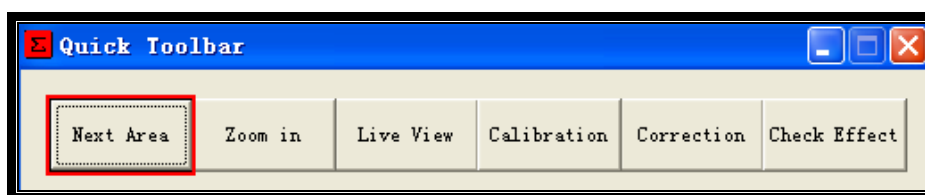
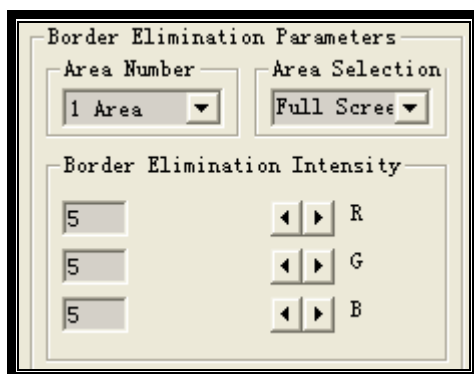

Fig.3-24
Fig.3-35
Step22: Click the “Next Area” on Quick Toolbar, as shown in fig.3-24. The software will light the next cabinet. Repeat step14,15,16 and 21 to complete the next cabinet correction.
- (3) Observe the screen, if you feel that the elimination intensity of border is not enough or excessive, in the frame of **Border Elimination Intensity** you can click the “▶” button or “◀” button to increase or reduce the elimination intensity , as shown in fig.3-35. Then click the “Check Effect” button on Quick Toolbar to check the border optimization effect, as shown in fig.3-24. Repeat this step until the border is completely eliminated.